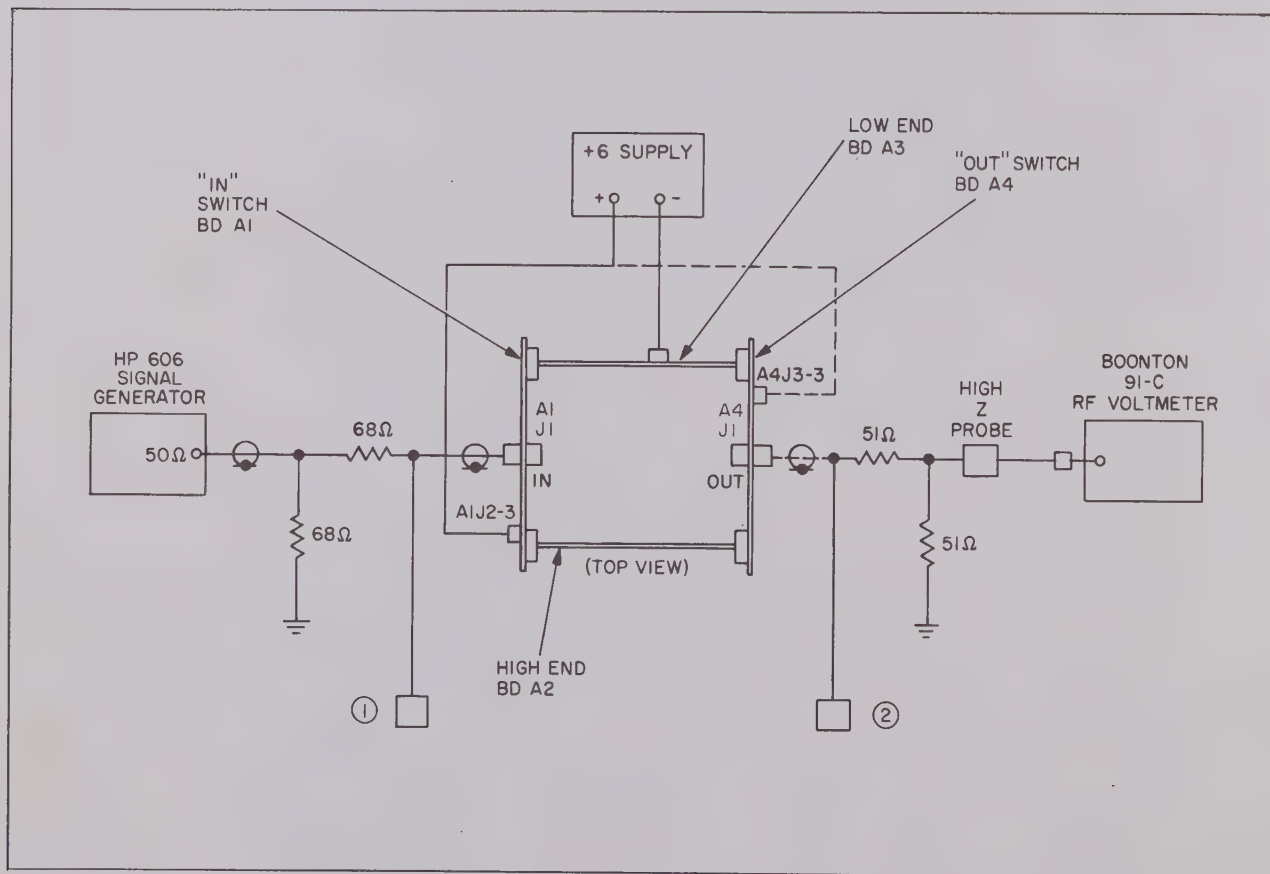

Figure 4-10. Low Pass Filter A4 Test Setup
- b. Connect resistive matching networks to the H-P 606 signal generator and Boonton 91-C rf voltmeter as shown in figure 4-10.
- d. Disconnect points 1 and 2 (figure 4-10) from the low pass filter and short together to set up a reference point on 1 volt range.